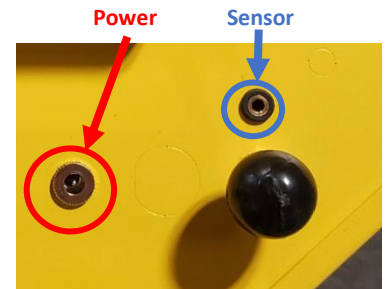

Figure 4
8. Plug the sensor into the top of the unit (Figure 4). **PLUG ALL SENSORS IN BEFORE ENERGIZING THE UNIT.**
9. Locate ¼" plug from power supply and plug into top of unit (Figure 4).